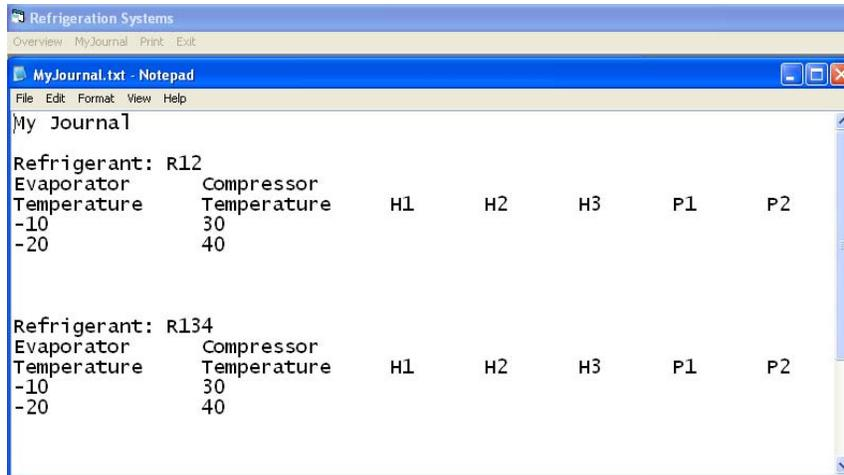

Figure 1.5. The Laboratory **Overview** Screen and the **MyJournal** text file.
- **MyJournal:** To open a Notepad® file to enter any data or to take notes during the experiment (Fig. 1.5), this file may